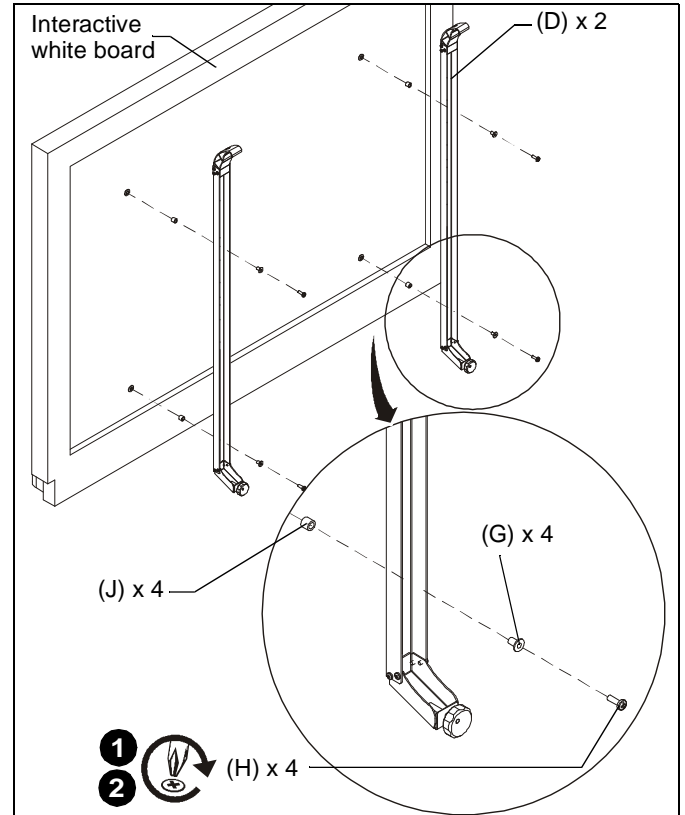

Figure 4
- Attach upright assembly (D) to back of white board using four 1/4-20 x 1" Phillips pan head screws (H), four isolation washers (G) and four .500"x.320"x.425" spacers (J). (See Figure 4)
- Repeat for second upright assembly. (See Figure 4)